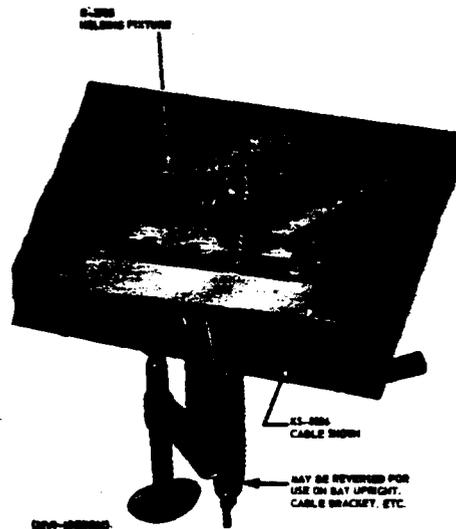

FIG.4 HOLDING FIXTURE FOR
5.212 Use the holding fixture (R-2783) as shown in Figure 4 to hold the cable during crimping operations. The fixture can be adjusted to any position, and can be clamped on the bay upright or other framework detail. When used on a bench, the C clamp assembly should be reversed so that the screw handle will not interfere with the closing of the cam hasp.